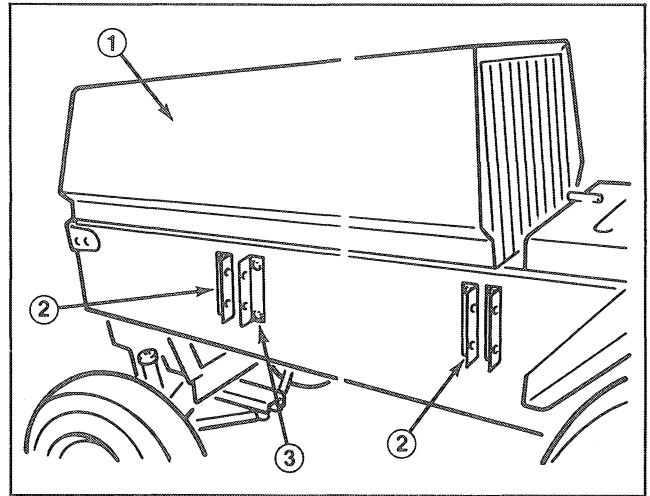

Figure 3
1. Position brackets over existing mounting holes as shown in Fig. 3. Mount brackets using (1) $3/8$ -16 x 2" lg. capscREWS, (7) $3/8$ -16 x 1- $1/4$ " lg. capscREWS (8) $5/16$ washers, and (8) $3/8$ -16 locknuts.